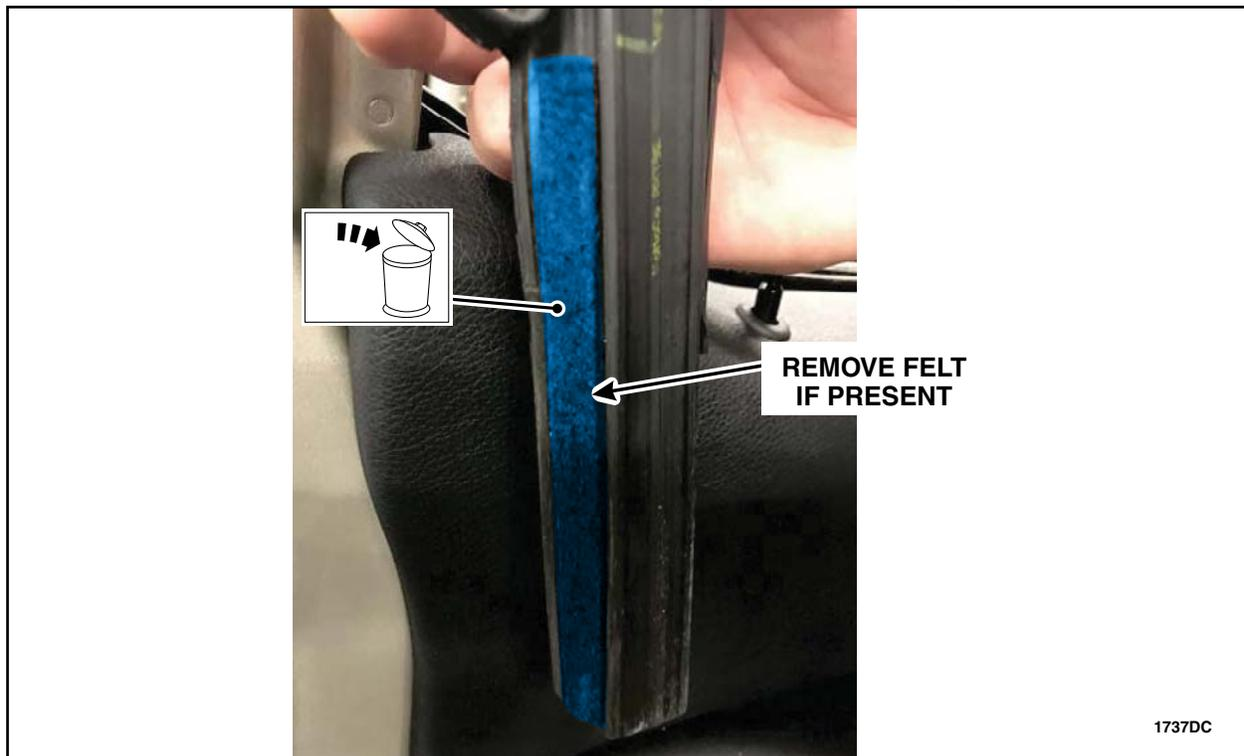

FIGURE 73
16. If present, remove and discard the felt on the rear door glass top run. See Figure 73.